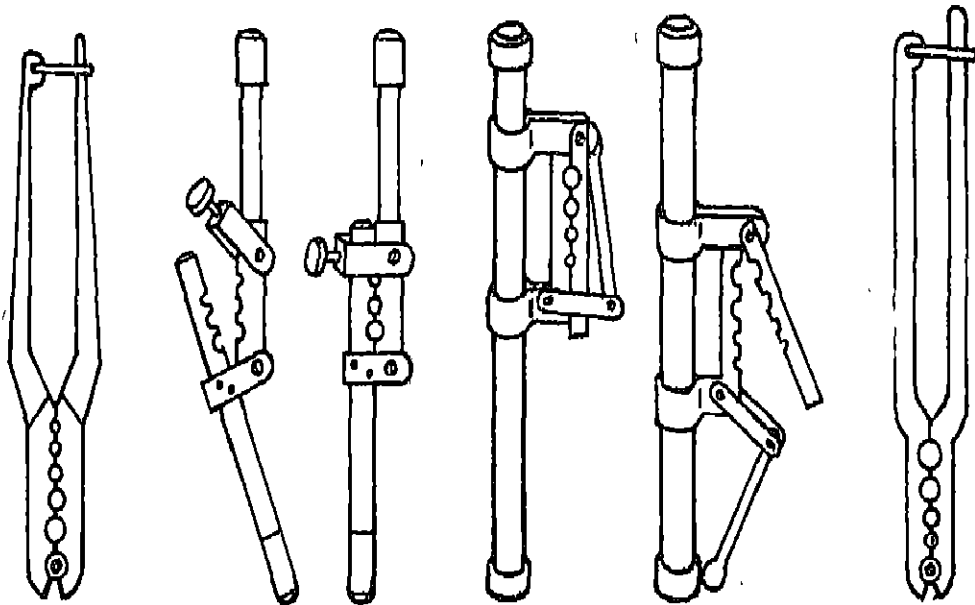

Fig. 17.1 Twisters
- (vii) Check the die number and sleeve number and insert the sleeve inside the correct die of the twisters. Fig 17.1 shows the various twisters used for this purpose.